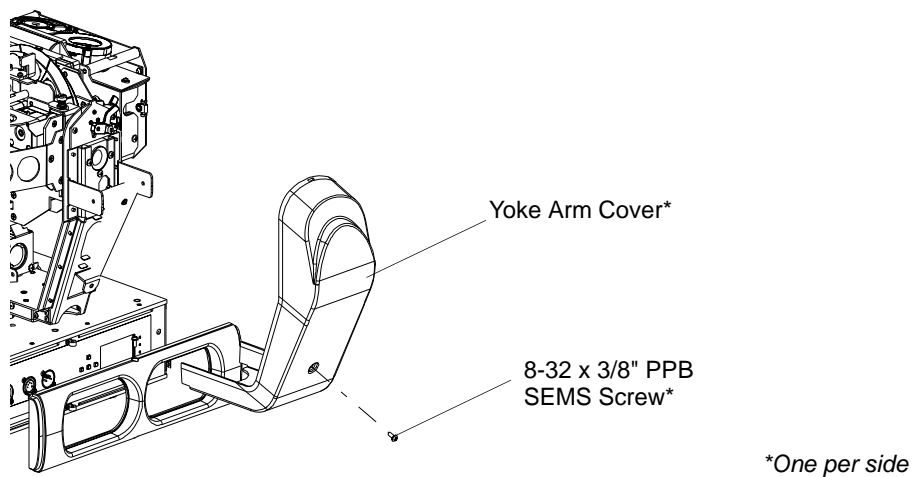

Figure 2-20: Yoke Arm Cover Removal
- Step 2. As shown in Figure 2-20, remove both yoke covers by removing one 8-32 x 3/8" PPB SEMS screw per side.